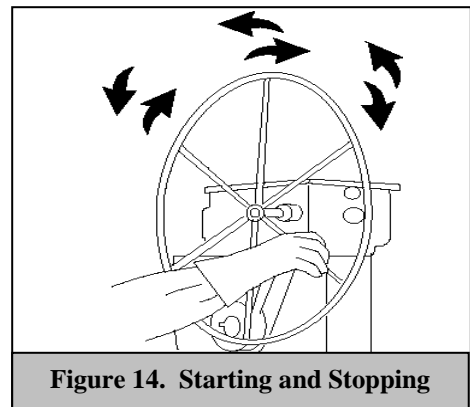

Figure 14. Starting and Stopping
Step 14: Depending on which direction your ladle operates, slowly turn the hand wheel clockwise or counterclockwise to start the pouring process of the molten metal. Reverse the direction of the wheel to stop the pouring process of molten metal. (See Figure 14.)